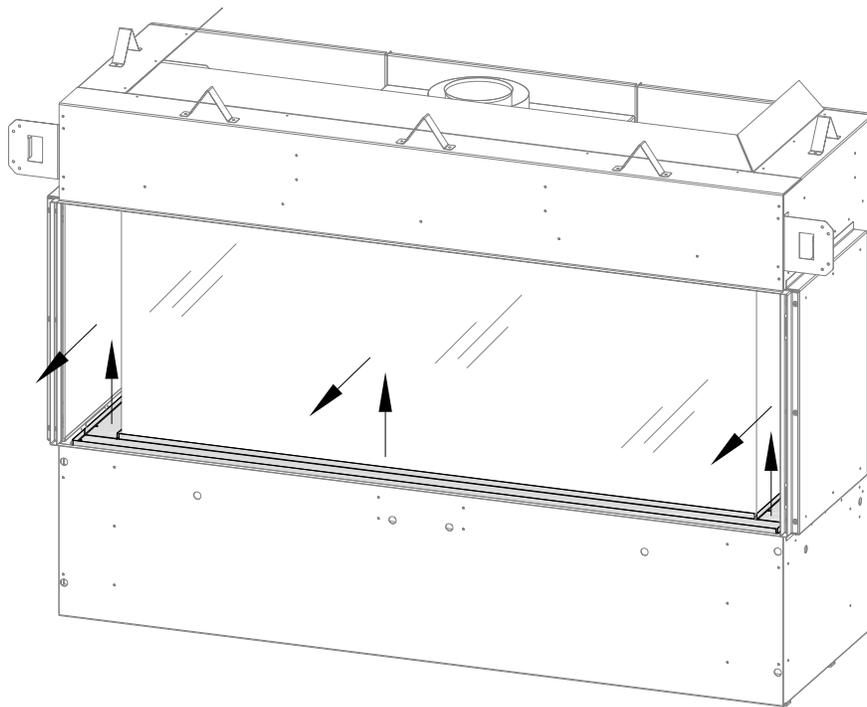

Figure 4.3 - Removing Exterior Media Tray
1. After the front safety screen is removed locate the (2) sheet metal screws that secure each side media tray and the front media tray. See Figure 4.3. Ensure the media trays are pushed up against the firebox glass so there is a gap between the media tray and screen / outside edge of the fireplace.
1. Remove the exterior media tray by lifting it up and out of the slot it is installed. See Figure 4.3.